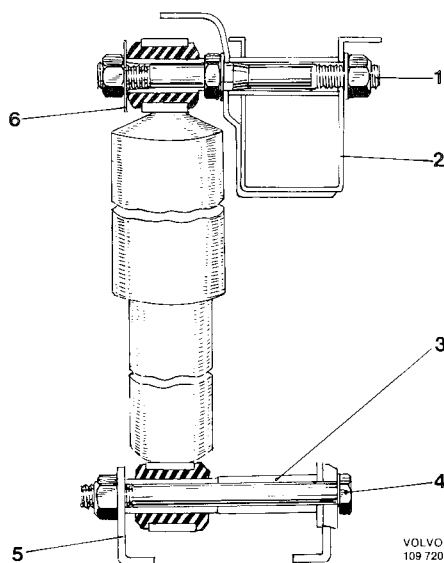

Fig. 7-11. Rear shock absorber
The rear shock absorber attachment (Fig. 7-11) consists of eyelets provided with rubber bushings (1 and 3) which cannot be dismantled. These absorbers are bolted at the top to the rear side-members and at the bottom to the trailing arms.
4. Install the new shock absorber with the spacer sleeve for the lower attachment positioned on the inside (Fig. 7-11).